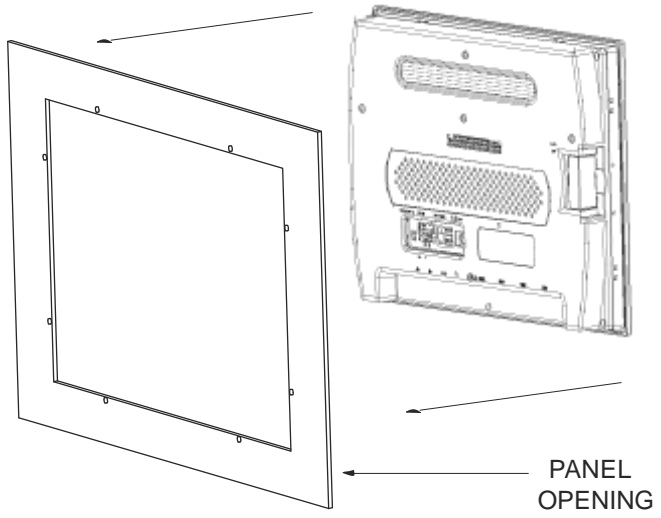

Figure 2.9: Panel Mounting\_2
**Step 2:** Install the 2500-VP15 on the panel opening. (Figure 2.9)